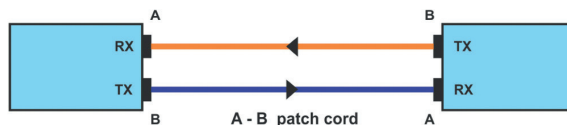

Figure 7
In general it should be guaranteed that the transmitter (TX) is always connected to a receiver (RX). In a bi-directional fiber setup including a transceiver (TX / RX) on both sides of the cable, a defined wiring setup is essential to ensure that a signal from the transmitter reaches the appropriate receiver port on the other end (figure 7). The TIA / EIA 568-D.0 standard defines three different wiring methods in order to avoid polarity failures and guarantee correct fiber cabling.